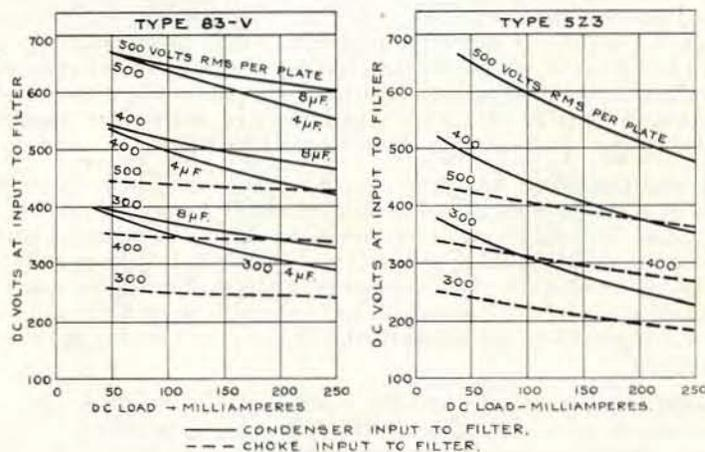

Fig. 9 Characteristic curves of the American 83V and 5Z3 rectifiers when operated in the circuits of Fig. 10 (a) (full lines) and Fig. 10 (b) (dotted lines).
Typical Characteristics:—In Fig. 9 are shown the characteristic curves of the American Type 83V and Type 5Z3 rectifiers when used in the circuits of Fig. 10a and b. The normal arrangement adopted for Class A circuits is that of Fig. 10a, in which the reservoir condenser (C1) is 4 m.f.; the appropriate curves can be picked out in Fig. 9.
Table 3 shows that the Osram PX25a's in low-loading (Class A—B) draw 114 m.a. at no load. If the 5Z3 rectifier is used with a 4 m.f. reservoir condenser and the H.T. voltage adjusted to its correct value (420v.) while the amplifier is idle, it can be seen from Fig. 9 that the voltage will drop to 360v. when the valves are fully loaded and drawing 200 m.a. This is obviously unsatisfactory, and will, in fact, prevent the full output of 32 watts being attained.
The relevant curves are shown in Fig. 9 for the two valves selected. It can be seen that with a fixed transformer voltage the rectified D.C. voltage is much lower with a choke than with a condenser input to the filter, but the regulation is vastly improved. The best results are obtained with mercury vapour rectifiers, but with this type of valve two points have to be watched:—(1) a thermal delay switch is essential, so that the H.T. is not switched on until the filament has been heated for a minute or so, and (2) high frequency oscillation is liable to occur, rendering the operation of the valves irregular.